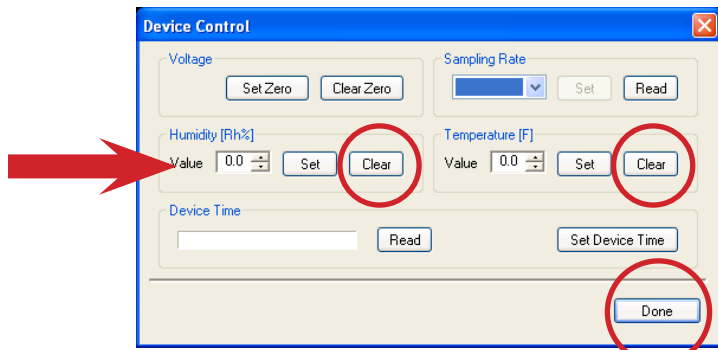

Figure 22: Clearing Humidity and Temperature Bias to use factory settings
1. From the Edit drop down menu, select Device Control (See Figure 22)
3. Confirm the Temperature (F) Value window is set at 0.0, and click Clear